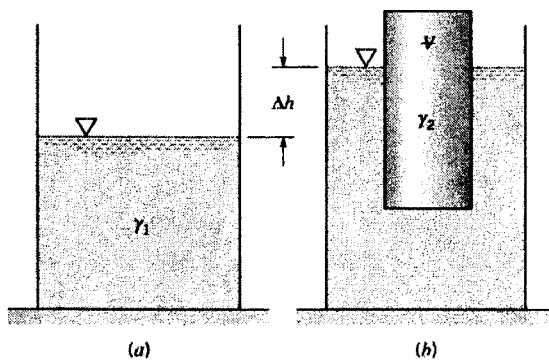

Fig 5. fluid tank and a solid block
4. **Newton's second law** states that the nonzero net force is equal to the time variation of momentum of a particle. For a fluid particle of constant density ($\rho = \text{constant}$), the forces exerting on the particle are due to pressure (p), fluid viscous stress ($\bar{\tau}$) and gravity ($g = \text{gravitational acceleration}$) while the momentum change is describe due to the variation of velocity (\vec{V}) at a fixed location (x, y, z) and time (t) **by Eulerian viewpoint**. According to these given properties of fluid and flow and express the variation in space by ∇ , write down the vector forms of Newton's second law (per unit volume) term by term for: (A) the pressure force, (B) the viscous force, (C) the gravity force, (D) the accelerations (splitting the acceleration in parts of time and space variations.) (10%)
5. In a tank of cross-area A filled with a liquid of specific weight γ_1 , we put a solid block of volume V and specific weight γ_2 to raise the fluid level Δh , as shown in Fig 5.
- (A) Expressed Δh by given quantities. (10%)
- (B) How much does the weight of the tank increase. (5%)
- (C) If the tank is accelerated horizontally without the block, what is the acceleration required to equate the water height to Δh on the right side of tank wall? (5%)